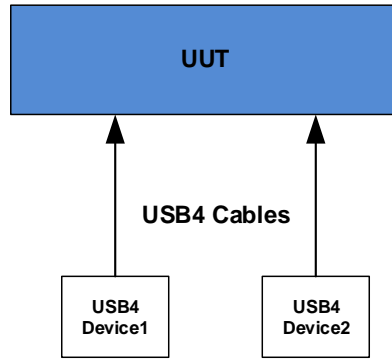

Figure 3-9: UUT↔ Two USB4 Devices Topology
3.4.3. Multiple USB4 Devices (UUT with 2 or more DFP, see Figure 3-9)